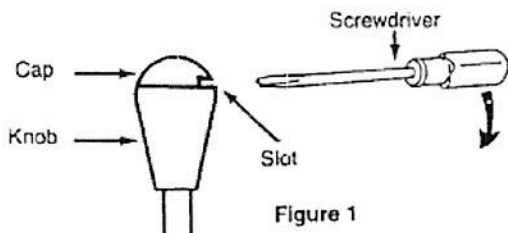

Figure 1
1. Pry up cap using screwdriver blade in cap slot. Figure 1.